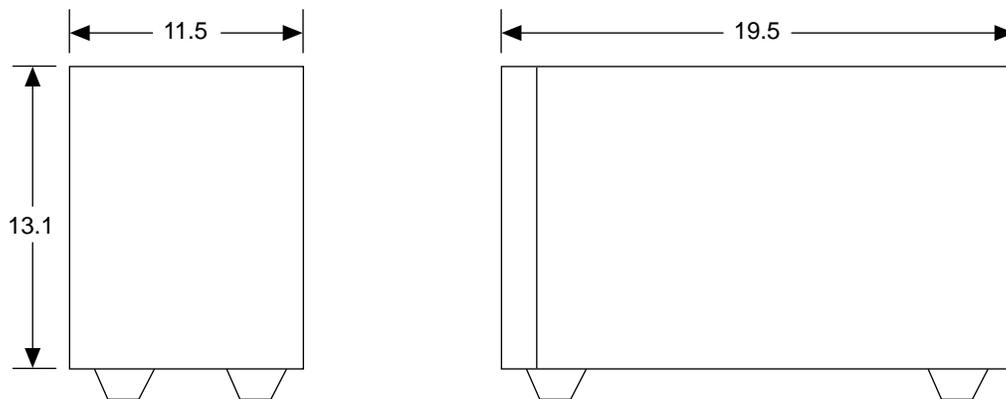

FIGURE 2-3. SAM64 Dimensions
To install the T1-Trunk module, refer to Figures 2-3 through 2-5 and follow Procedure 2-12.
3. Mount the ED2P491-30, G14 cable assembly to the small cover plate using the screwlock kit (Comcode 403870140) as shown in Figure 2-3.
4. Mount the cover plate (now equipped with the cable assembly) to the rear panel using six #4-40 x 3/16 Phillips head screws as shown in Figure 2-3.